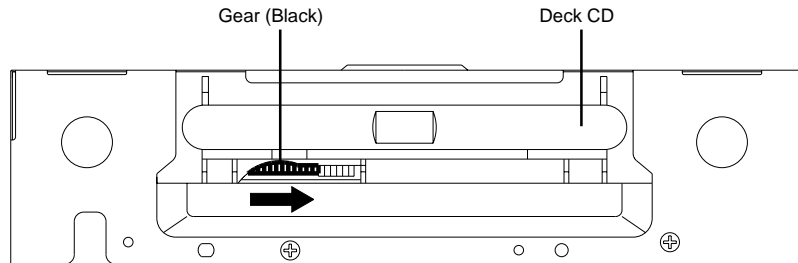

Fig. 1
1. Remove the Back Cabinet and Power PCB/DVD Block. (**Refer to item 1 of the DISASSEMBLY INSTRUCTIONS.**)
2. Rotate the black gear of Deck CD section in the direction of the arrow by hand, remove the disc from Deck CD. (**Refer to Fig. 1**)